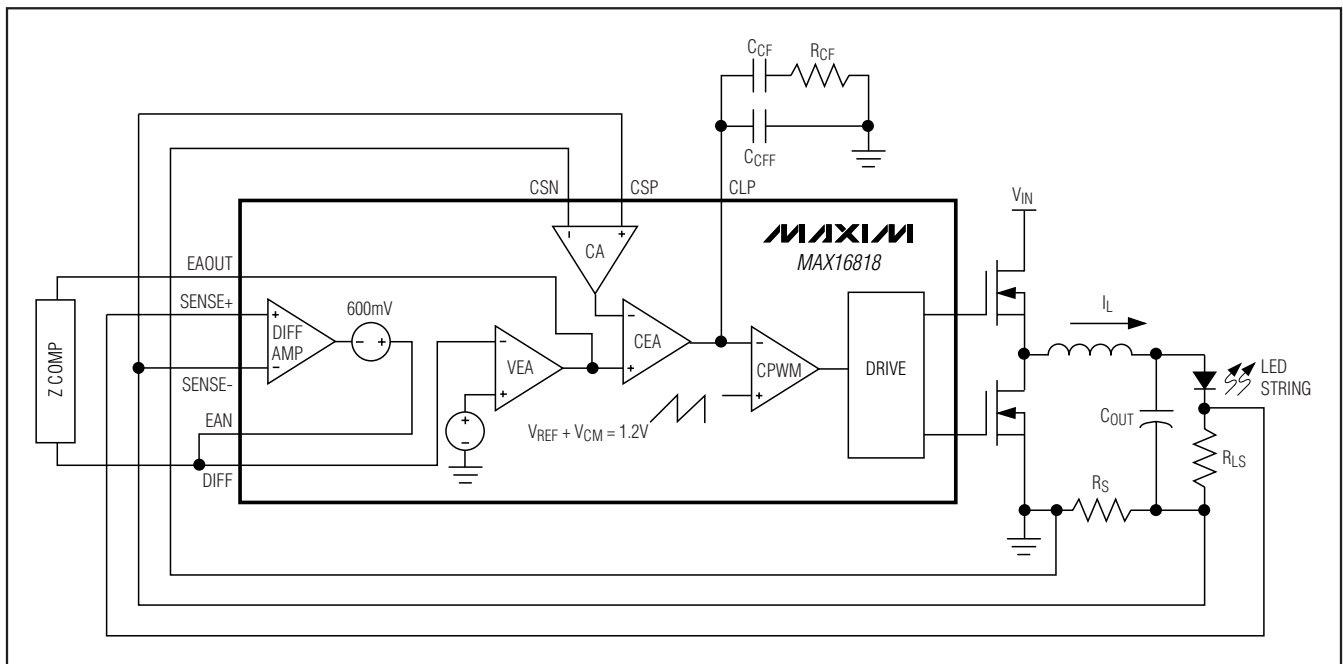

Figure 7. MAX16818 Control Loop
The MAX16818 uses an average-current-mode control scheme to regulate the output current (Figure 7). The main control loop consists of an inner current loop for controlling the inductor current and an outer current loop for regulating the LED current. The inner current loop absorbs the inductor pole reducing the order of the outer current loop to that of a single-pole system. The current loop consists of a current-sense resistor (R_S), a current-sense amplifier (CA), a current-error amplifier (CEA), an oscillator providing the carrier ramp, and a
PWM comparator (CPWM) (Figure 7). The precision CA amplifies the sense voltage across R_S by a factor of 34.5. The inverting input to the CEA senses the CA output. The CEA output is the difference between the voltage-error amplifier output (EAOUT) and the amplified voltage from the CA. The RC compensation network connected to CLP provides external frequency compensation for the CEA. The start of every clock cycle enables the high-side drivers and initiates a PWM on-cycle. Comparator CPWM compares the output voltage from the CEA with a 0V to 2V ramp from the oscillator. The PWM on-cycle terminates when the ramp voltage exceeds the error voltage. Compensation for the outer LED current loop varies based upon the topology.
The MAX16818 has a transconductance current-error amplifier (CEA) with a typical g_m of 550 μ S and 320 μ A output sink- and source-current capability. The current-error amplifier output CLP serves as the inverting input to the PWM comparator. CLP is externally accessible to provide frequency compensation for the inner current loops (Figure 7). Compensate (CEA) so the inductor current negative slope, which becomes the positive slope to the inverting input of the PWM comparator, is less than the slope of the internally generated voltage ramp (see the *Compensation* section).
The DIFF AMP facilitates remote sensing at the load (Figure 7). It provides true differential LED current (through the R_{LS} sense resistor) sensing while rejecting the common-mode voltage errors due to high-current ground paths. The VEA provides the difference between the differential amplifier output (DIFF) and the desired LED current-sense voltage. The differential amplifier has a bandwidth of 3MHz. The difference between SENSE+ and SENSE- is regulated to 0.6V. Connect SENSE+ to the positive side of the LED current-sense resistor and SENSE- to the negative side of the LED current-sense resistor (which is often PGND).